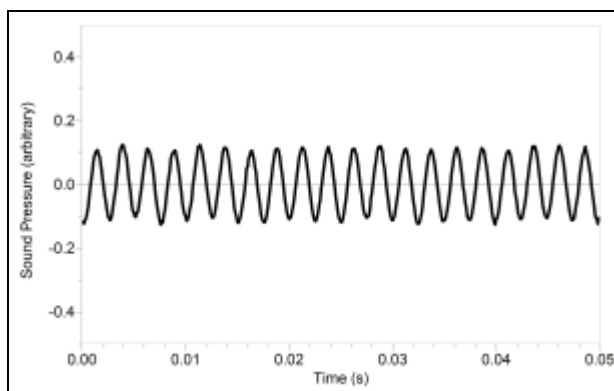

Figure 1
3. Press and hold a key on the keyboard. Hold the Microphone close to the speaker and start data collection. When data collection is complete, a graph is displayed. The data should be sinusoidal in form, similar to Figure 1.